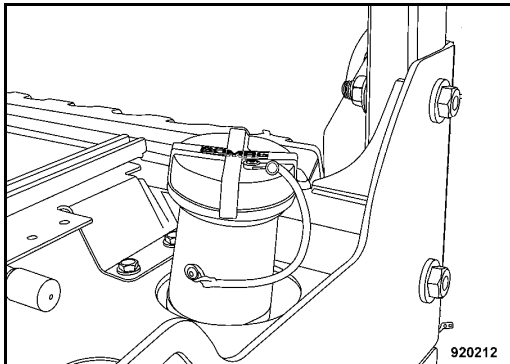

Fig. 184
- Remove the water tank cover (Fig. 184).